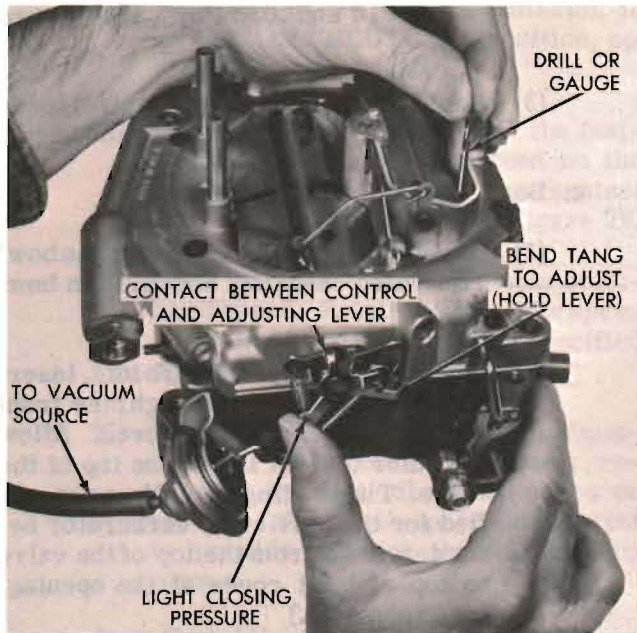

Figure 24. Adjusting Vacuum "Kick"
- (1) Off vehicle — open the throttle valves and move the choke valve to closed position with the control lever. Release the throttle before releasing choke to trap the fast-idle cam in closed choke position.
- (2) On vehicle — with engine running, back off the fast-idle speed screw until the choke can be closed to the kick position at curb idle. (Note number of screw turns required so that fast-idle can be returned to its original adjustment.)
- (3) Off vehicle — using an auxiliary vacuum source, disconnect the vacuum hose from carburetor and connect it to the hose from vacuum supply with a small length of tube to serve as a fitting. Removal of the hose from diaphragm may require forces which could damage the diaphragm. Make sure the diaphragm is securely mounted on the carburetor. Apply a vacuum of 10 or more inches of Hg.
- (4) Insert a specified (See specifications) drill between the long side (lower edge) of choke valve and the air horn wall. (See figure 24.) Apply sufficient closing pressure on the choke control lever to provide a minimum choke valve opening without distortion of the choke linkage. (Note that some carburetor models extend a spring connecting the control lever to an adjustment lever. This spring must be fully extended for proper measurement of the vacuum kick adjustment.)
- (5) Adjustment will be necessary if a slight drag is not obtained as the drill is being removed. Bend the tang indicated in figure 24 to change contact with end of diaphragm rod. Do not adjust the diaphragm rod. Adjust the tang only while applying a counter force to the adjustment lever. Counter force can be provided by a screwdriver